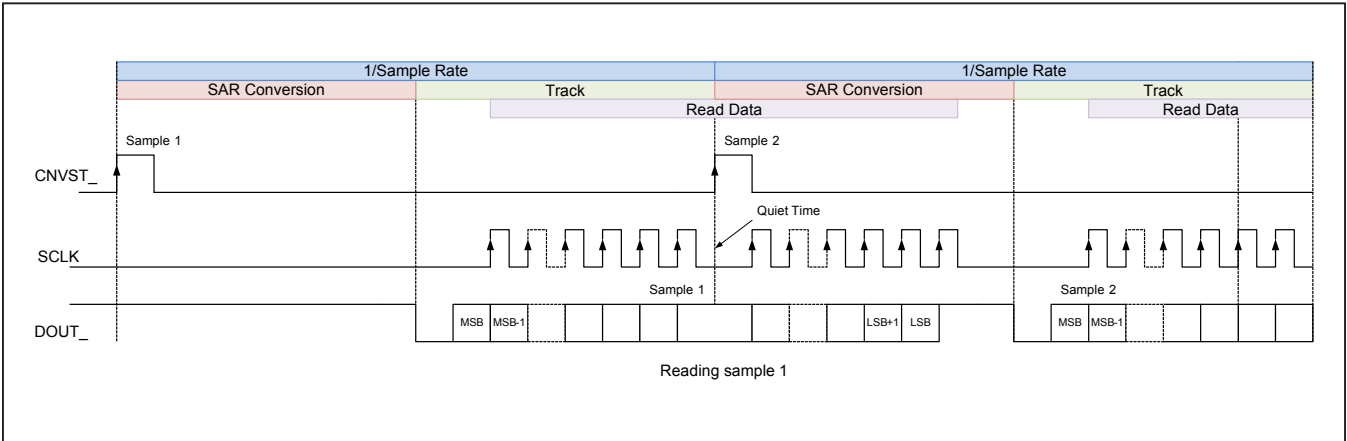

Figure 7. Split Read Mode
- Split reading (Figure 7)
In the split reading mode, the data is read during the track phase and the following SAR conversion phase. Figure 7 shows the descriptive timing diagram.